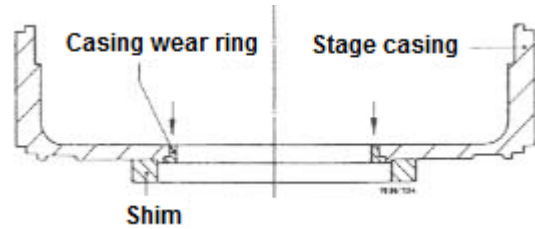

Figure 31
1. Push the casing wear rings out of their seats taking care not to damage the seats (see fig. 31).
3. Smooth down all impellers (230, 231) in the region of the fitted impeller wear rings (503) to a common diameter, basing this on the most heavily scored impeller wear ring. Individual deep grooves can be left untouched.
5. Align the stage casing (108) and suction casing (106) with fitted casing wear ring to the outer fit and machine the wear ring **in one machine tool setting**.